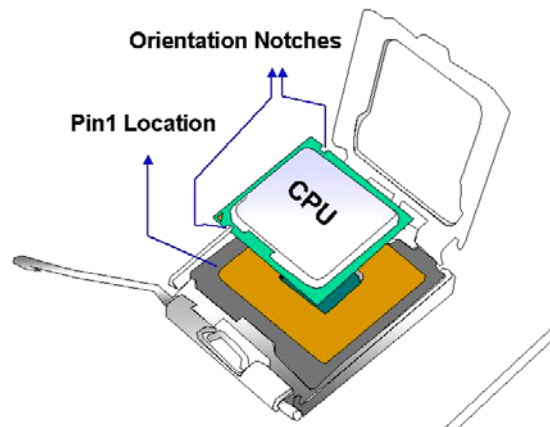

Figure 5-4: Insert the LGA775 CPU
- Step 7:** Insert the CPU. Gently insert the CPU into the socket. If the CPU pins are properly aligned, the CPU should slide into the CPU socket smoothly. See Figure 5-4.